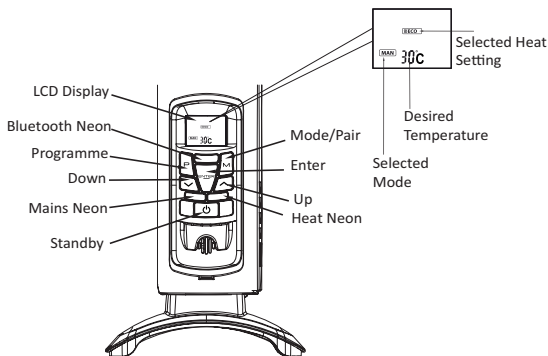

Fig. 3
**Mains On Neon:** The mains neon, (see **Fig. 3**), remains illuminated when the power is supplied to the product. Note: This does not indicate whether the heating elements are on.